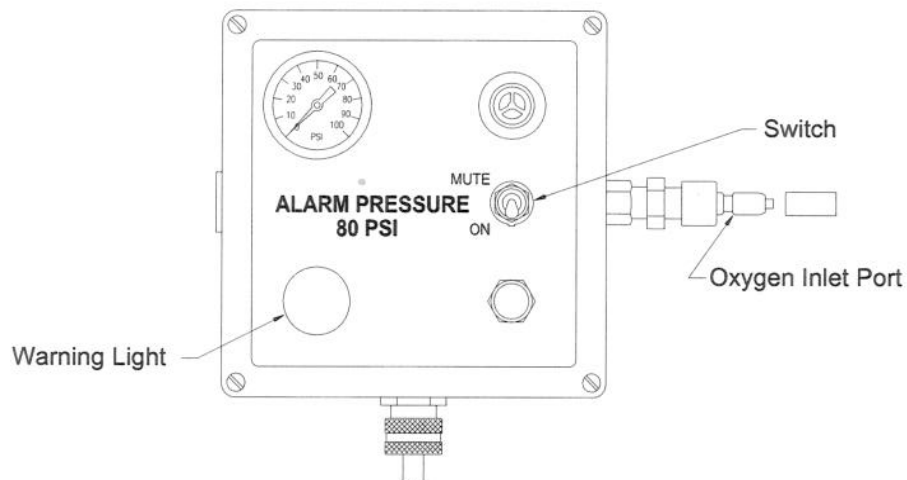

Figure 2. Alarm Assembly
2. Remove the cap from the oxygen inlet port (quick connect) (see Figure 2.).